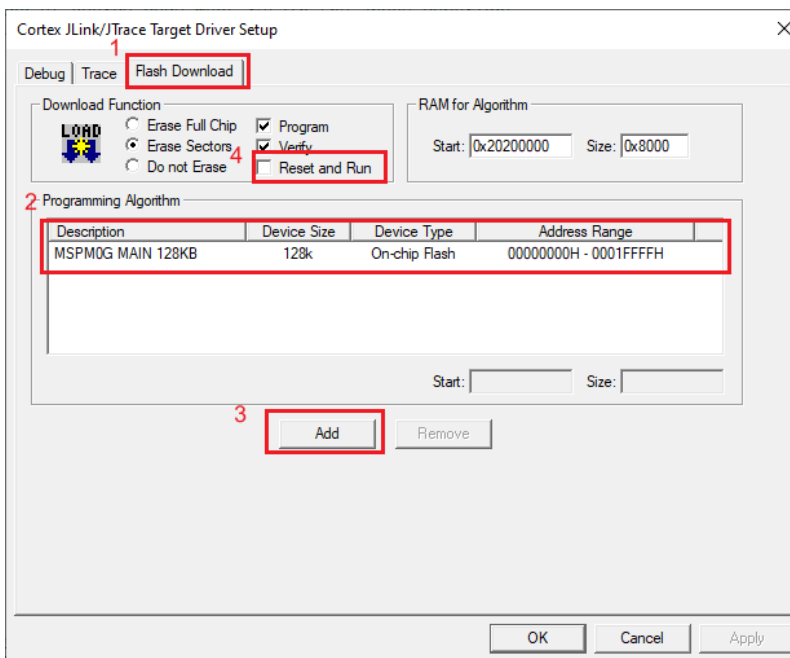

Figure 3-49. Flash Download Setting
4. Click on the *Flash Download* tab and check whether the description matches Figure 3-49. If this does not match, then click on the *Add* button and select the corresponding MSPM0 MAIN option. The device type is *On-chip Flash*. At last select *Reset and Run*.